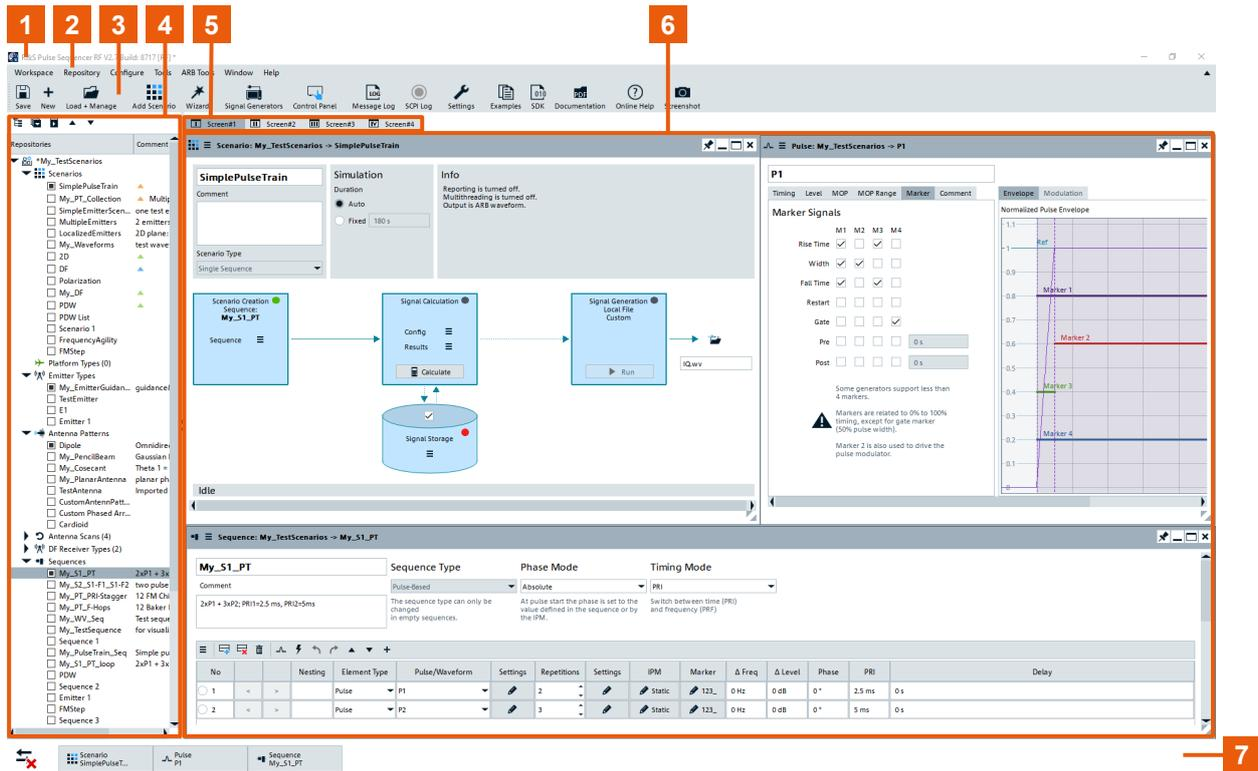

Figure 2-1: R&S Pulse Sequencer default workspace: understanding the displayed information
- Figure 2-1 (in Chapter 2.4, "Understanding the displayed information", on page 23)